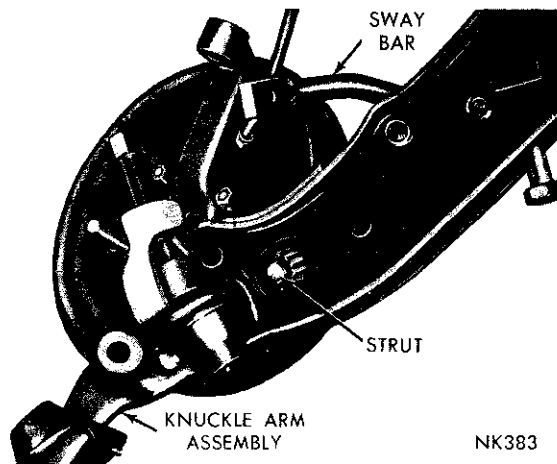

Fig. 10—Removing Lower Ball Joint Stud (Chrysler)
(1) Remove the upper control arm rebound bumper.
(2) Raise the vehicle so the front suspension is in full rebound. Remove all load from the torsion bar by turning the adjusting bolt counterclockwise.
(3) Remove the wheel, tire and drum as an assembly.
(4) Remove the two lower bolts from the brake support attaching the steering arm and ball joint assembly to the steering knuckle.
(5) Remove the tie rod end from the steering knuckle arm using Tool C-3742. Use care not to damage the seal.
(6) Using Tool C-3964 remove the ball joint stud from the lower control arm (Fig. 10) and remove the steering arm and ball joint assembly.
(1) Remove the torsion bar from the lower control arm.
(2) Remove the cotter pin and slide the tie rod end seal protector up the steering knuckle arm. Remove the tie rod end from the steering knuckle arm using Tool C-3964 or Tool C-3742. **Use care not to damage the seal.**
(3) Remove the sway bar to strut attaching straps.
(4) Remove the steering knuckle arm to brake support bolts and remove the steering knuckle arm. Move the brake support assembly out of the way. **Do not allow the brake support to hang by the brake hose.**
(5) Remove the ball joint stud from the lower control arm using Tool C-3964 (Fig. 10). The bottom portion of the tool must be positioned between the seal and the control arm to avoid seal damage.